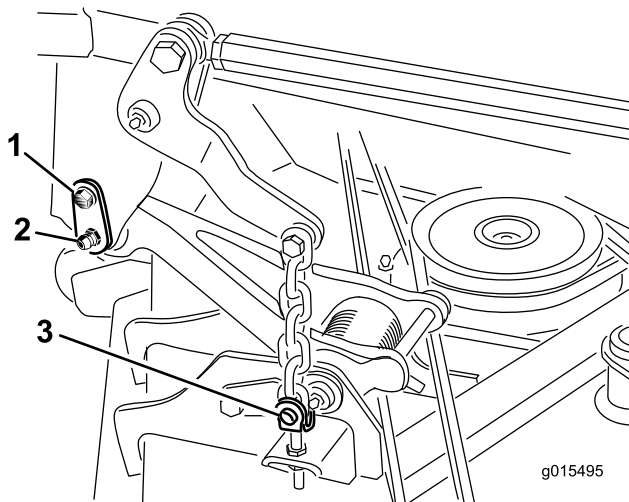

Figure 1
- Remove the shoulder screw that secures the retainer pin to the carrier frame (Figure 1).
8. Remove the (4) ring pins and clevis pins that secure the deck lift chains to the adjustment clevises on the cutting deck (Figure 1).